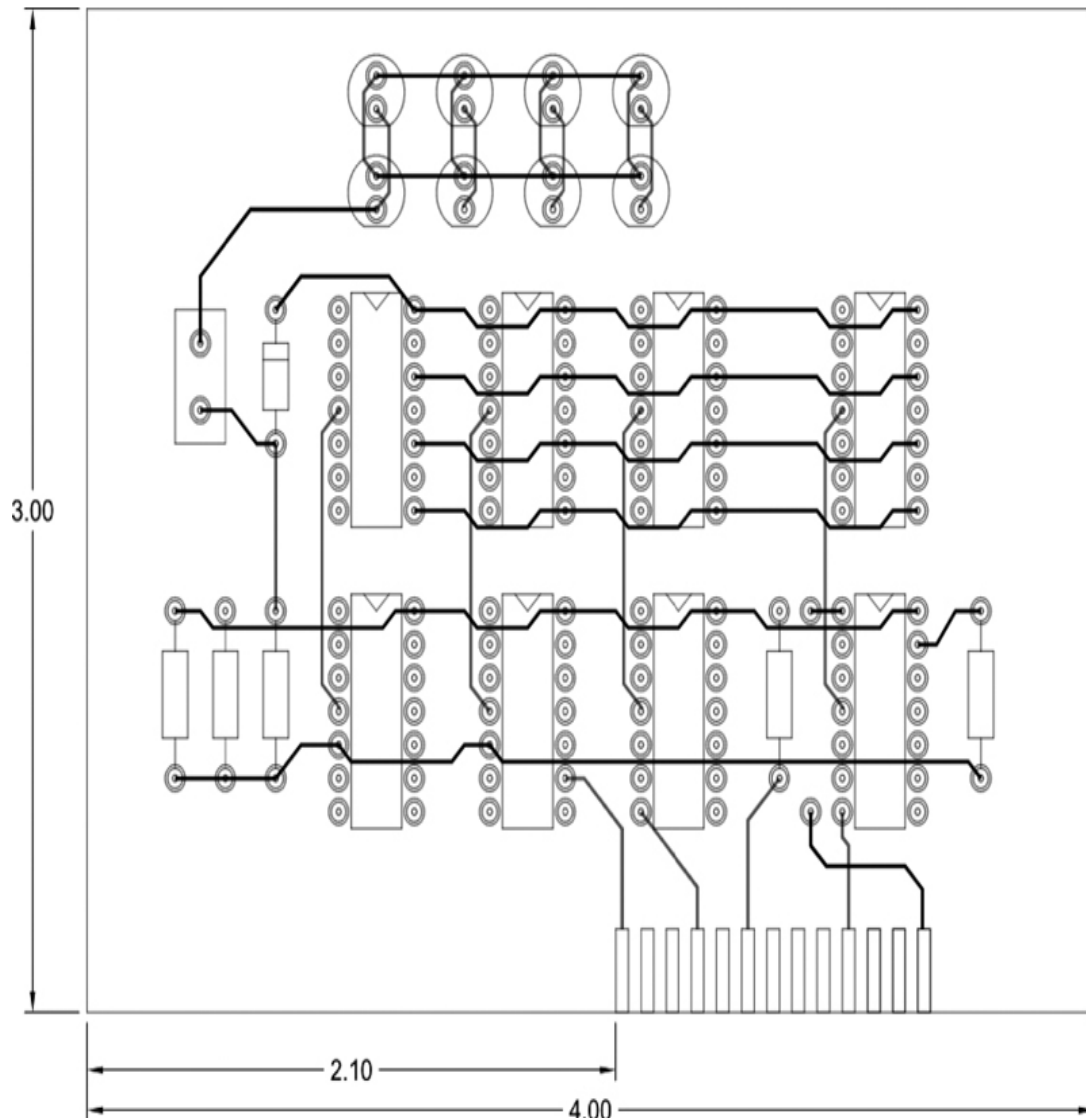

Figure 9-50
- Using polylines, draw the wiring on the **Top** layer as shown in Figure 9-50. Use a polyline width of 0.006". All points should be placed on snap coordinates.